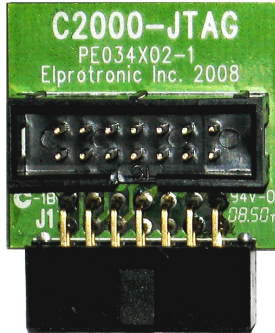

Figure 12.1
1. **C2000-JTAG** adapter (Figure 12.1 and 12.2) that convert the pinout from FPA adapter to standard TI's JTAG presented in the TMS320F2xxx DSP